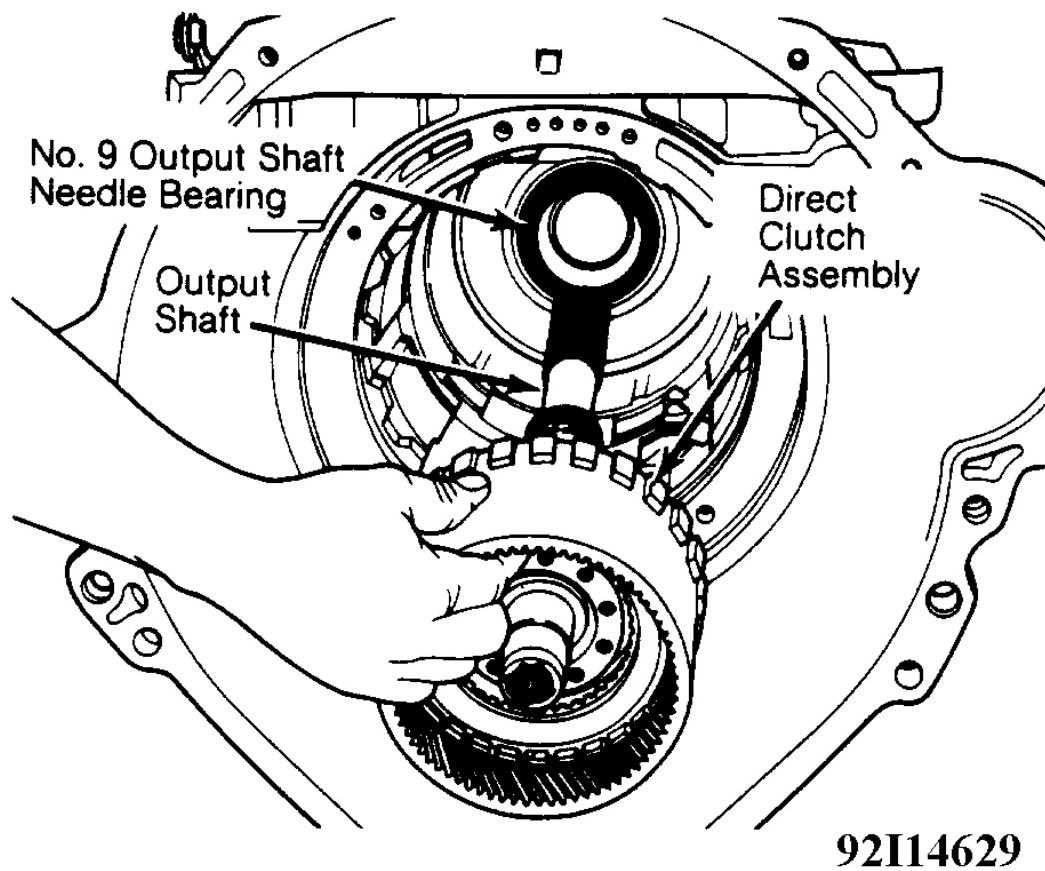

Fig. 46: Installing Direct Clutch Assembly
2. Place No. 8 needle bearing on rear of direct clutch drum. Slide output shaft into direct clutch drum. Attach output shaft hub to ring gear with retaining ring. Install output shaft, ring gear, and direct clutch assembly into transmission case. See **Fig. 46** .